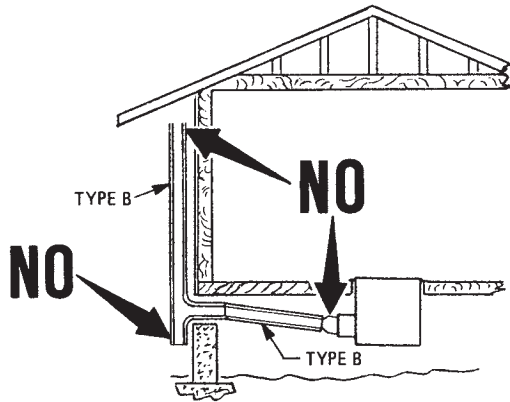

Figure 5
6. Flue pipe **MUST** be as large as the flue collar on the draft diverter. See **Figure 5**.
11. The flue pipe **MUST** be sealed. No open "Tees." See Figure 5.